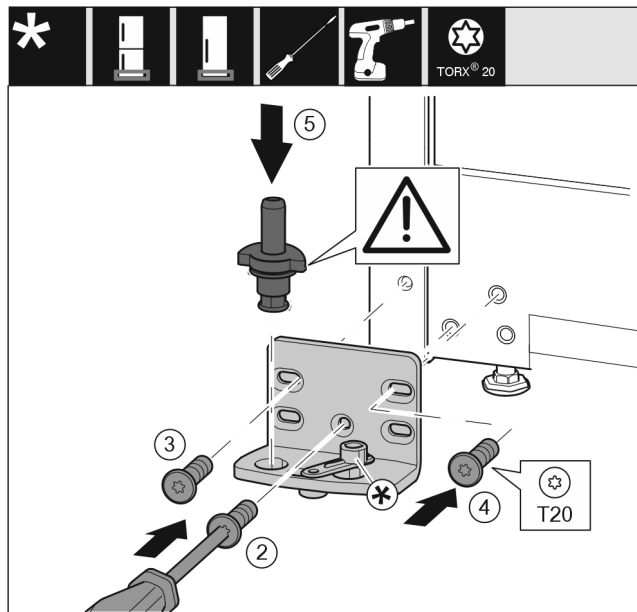

Fig. 13
- ▶ Place the bearing bracket on the other side and screw it in using the T20 screwdriver. Start with screw 2 at the bottom in the middle. Fig. 13 (2)
- ▶ Screw in screws 3 and 4. Fig. 13 (3,4)
- ▶ Insert the bearing pin completely. Make sure that the latching lug is pointing to the rear. Fig. 13 (5)